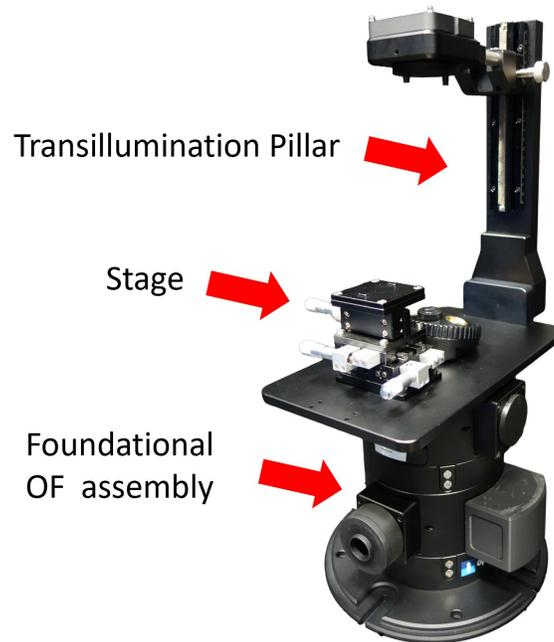

Figure 4: Stage and transillumination pillar mounted to the foundational openFrame mechanical assembly.
3. Align the arrow labels ($\rightarrow 1$ and $\rightarrow 2$) on OF01 and ($\rightarrow 1$ and $\rightarrow 2$) on the underside of OF02 to couple OF01 and OF02 together (Figure 4). Note: $\rightarrow 1$ aligns with its respective $\rightarrow 1$ counterpart. The dowel pins click into place and the stage will be level upon correct seating.